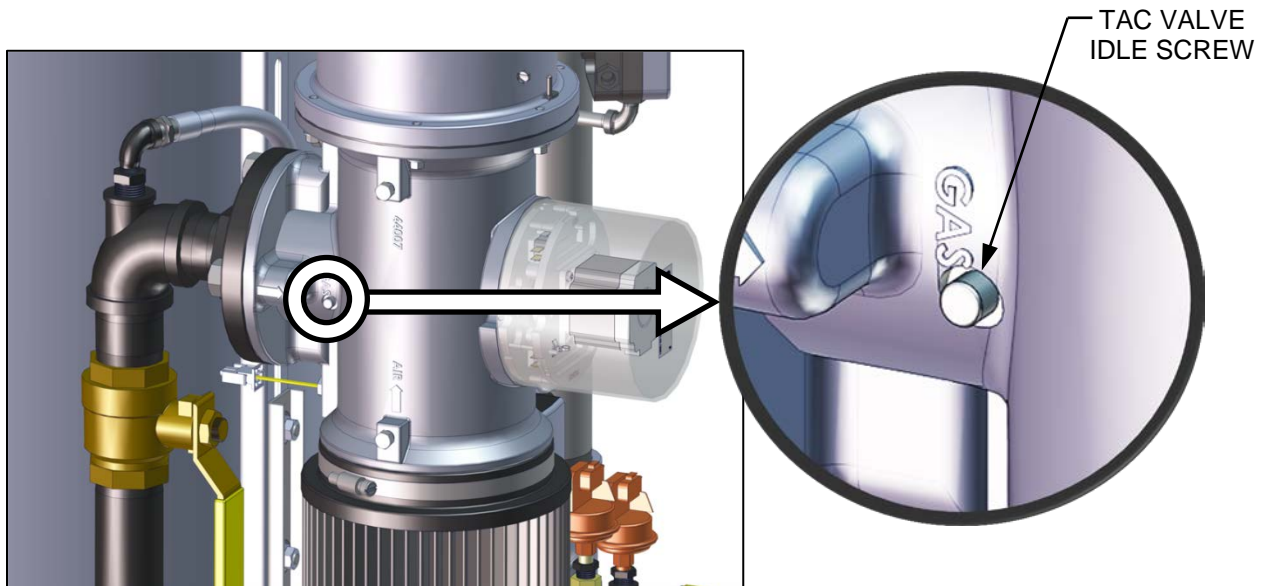

Figure 4-4: TAC Valve Adjust (Idle Screw)
29. If the oxygen level at the 16% valve position is too high and the Blower voltage is at the minimum value, you can adjust the idle screw (TAC valve) which is recessed in the top of the Air/Fuel Valve (see Figure 4-4). Rotate the screw 1/2 turn clockwise (CW) to add fuel and reduce the O₂ to the specified level. Recalibration **MUST** be performed again from 60% down to 16% after making a change to the idle screw (TAC valve).
29. If the oxygen level at the 14% valve position is too high and the Blower voltage is at the minimum value, you can adjust the idle screw (TAC valve) which is recessed in the top of the Air/Fuel Valve (see Figure 4-4). Rotate the screw 1/2 turn clockwise (CW) to add fuel and reduce the O₂ to the specified level. Recalibration **MUST** be performed again from 60% down to 16% after making a change to the idle screw (TAC valve).